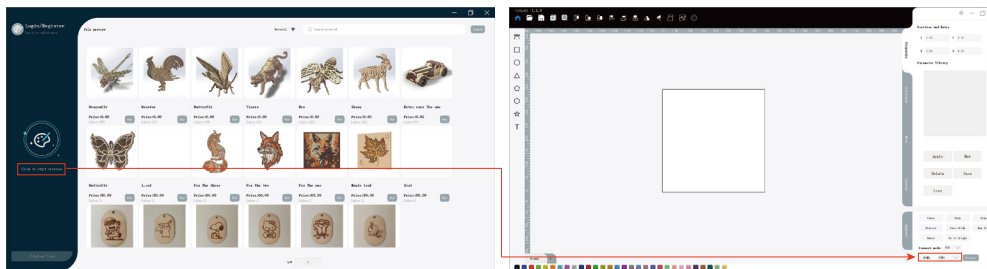

Fig.1
3. Open the CutLabX software to enter the authoring page -Fig.1